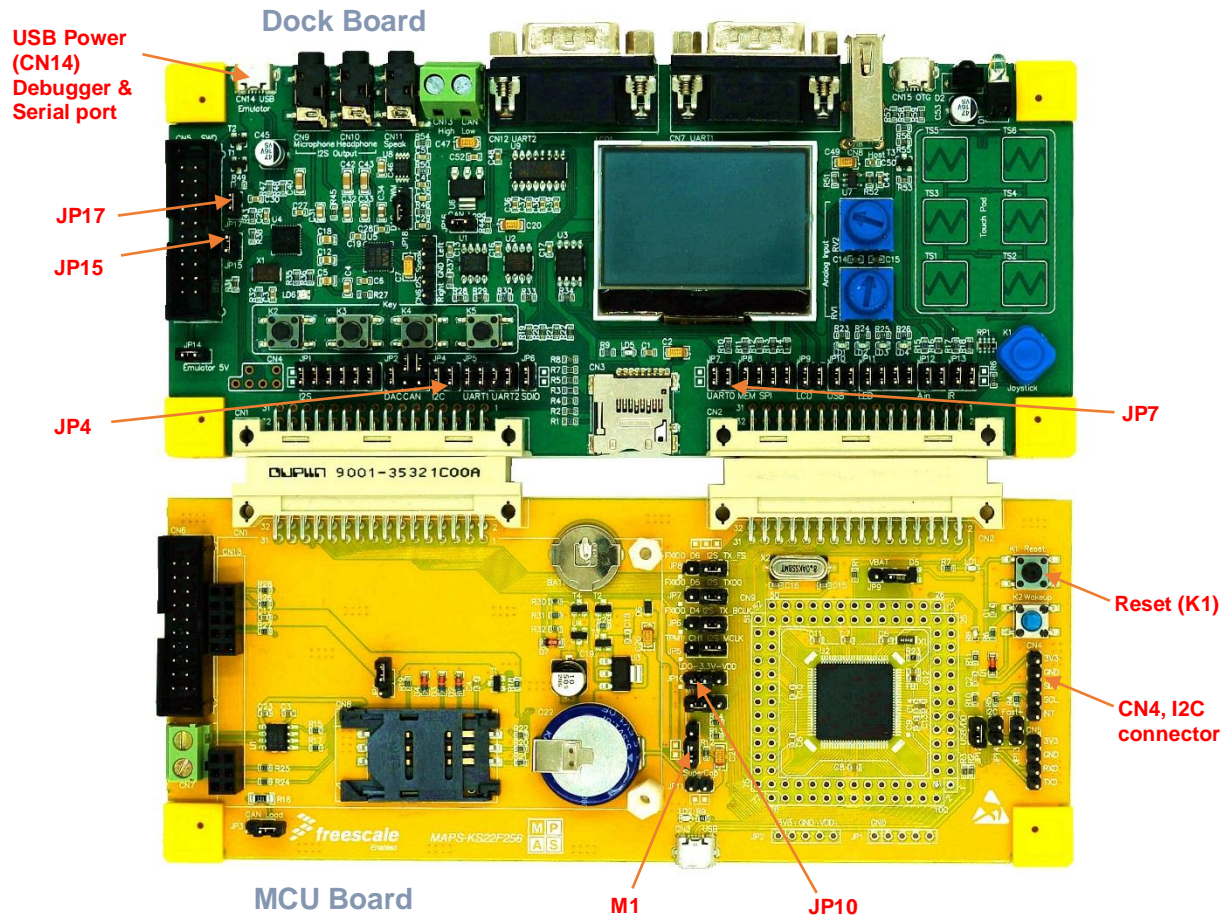

Figure 2. MAPS-KS22F256 Development Kit
- MAPS-KS22F256 Development Kit, including MCU board and Dock board. See Figure 2.